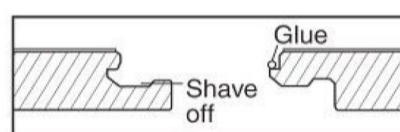

Figure 5
- Using a small plane or utility knife, carefully shave off the ledge of the groove (**Figure 5**).